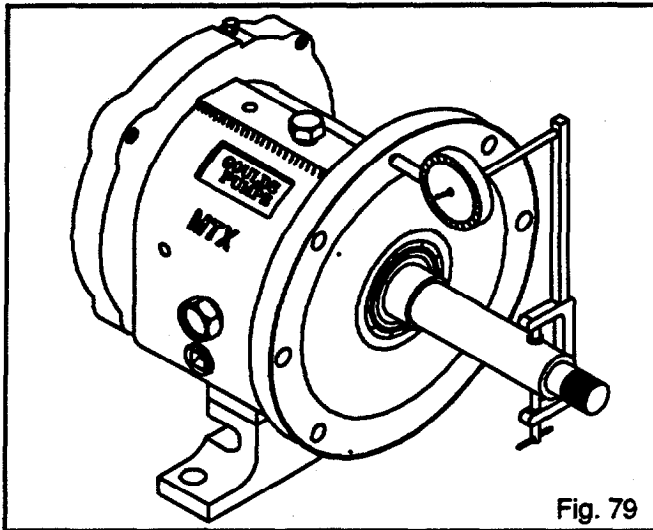

Fig. 79
4. Check frame face run out. Rotate shaft so indicator rides along the fit for 360 degrees. If total indicator reading is greater than 0.001 in. (.025 mm) disassemble and determine cause (Fig. 79).